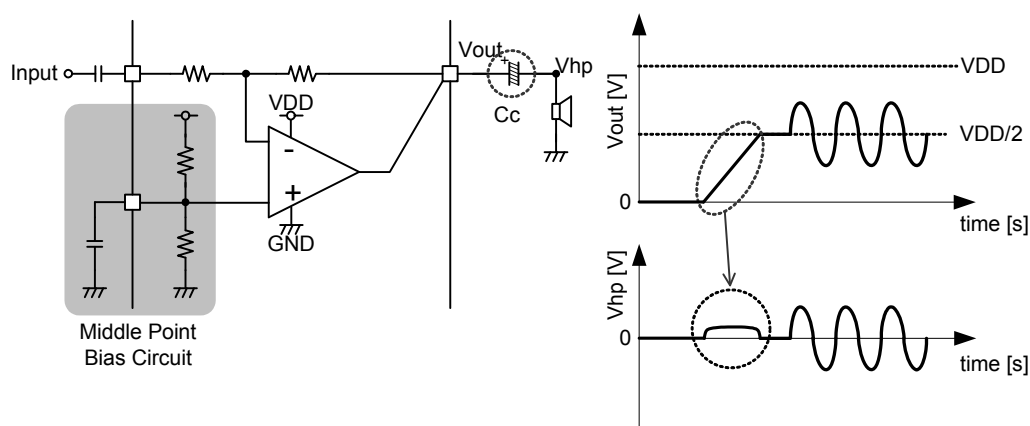

Fig.57 Conventional headphone amplifier composition
The conventional headphone amplifier composition is occupied to Fig.57. In this composition, the signal is output by using the middle point bias circuit based on the middle point bias. Therefore, the output coupling capacitor that removes the DC voltage difference and does the AC coupling is necessary. This coupling capacitor and the impedance of the headphone composes the high-pass filter. Therefore, the signal degradation in the low frequency region learns by experience. The output coupling capacitor should be a large capacity, because the cutoff frequency of this high-pass filter becomes the following formula (1).